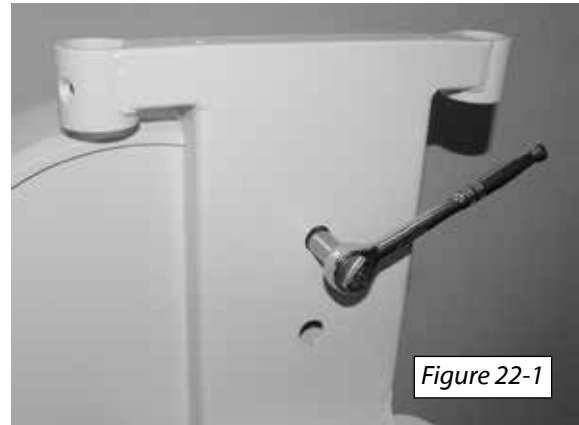

Figure 22-1
2. On the front side of the chassis, loosen the two screws on the seat support using a 9/16" socket. *[Figure 22-1]*